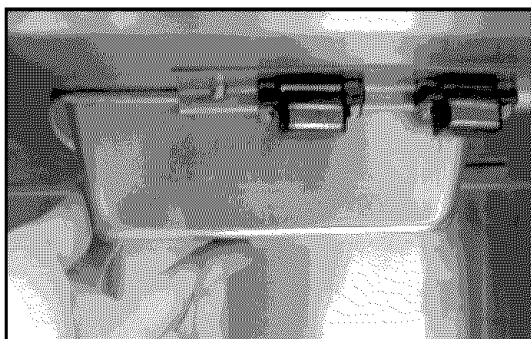

Fig. 12
2. Slide the drip pan onto the two ledges located on the bottom of the grill, by inserting it from the left side of the cart. (See Fig. 12)